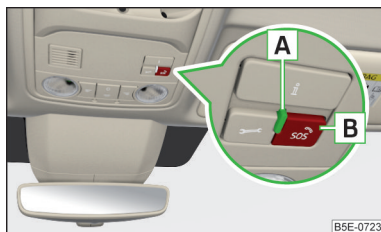

Fig. 4
Warning light and emergency button » Fig. 4
- ▶ Press the button **B** » Fig. 4 for longer than 3 s (the established connection can be **terminated** by pressing the button again).
The **Function of the system** after switching on the ignition by the warning light **A** appropriate » Fig. 4,